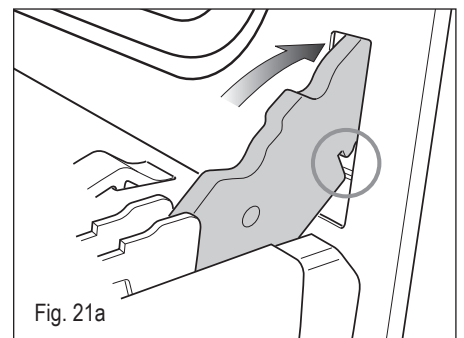

Fig. 21a
- Insert the hinge tongues into the slots, making sure that the groove drops into place as shown in the fig. 21a.